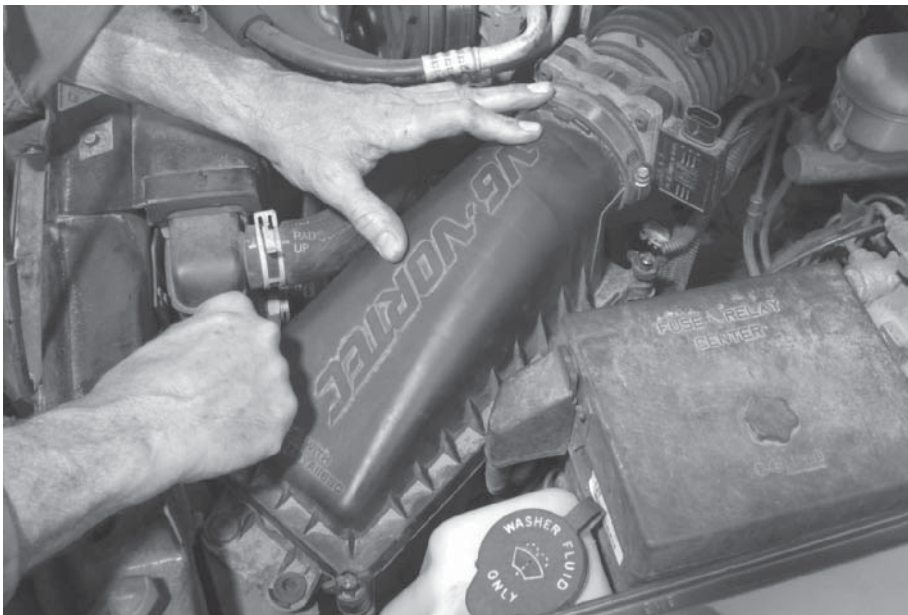

Figure 11-16 Air filter replacement step 4: install the filter and replace the housing cover and fasteners securely.
Step 4. Put in a new filter, replace the top of the housing, and fasten the clips, screws, or bolts (**Figure 11-16**). Inspect the ductwork to make sure it is properly fastened, and the job is done.